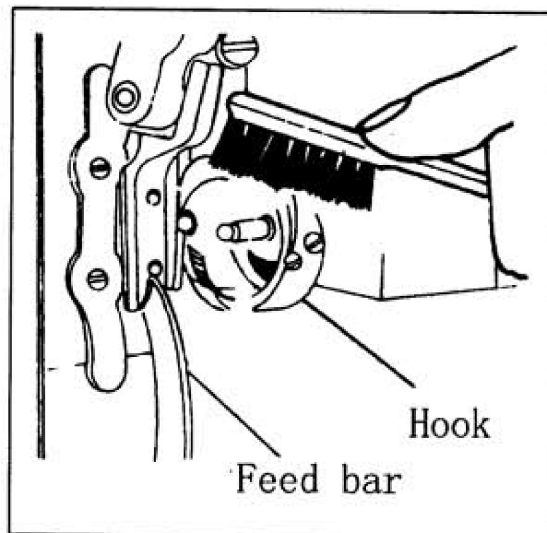

Fig. 32
2) Cleaning rotating hook (See Fig 32)